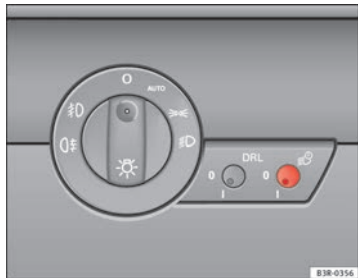

Fig. 87 Detailed view of the instrument panel: Coming home and leaving home functions
- Briefly press the knob ⇒ fig. 87 to release it from its set position.